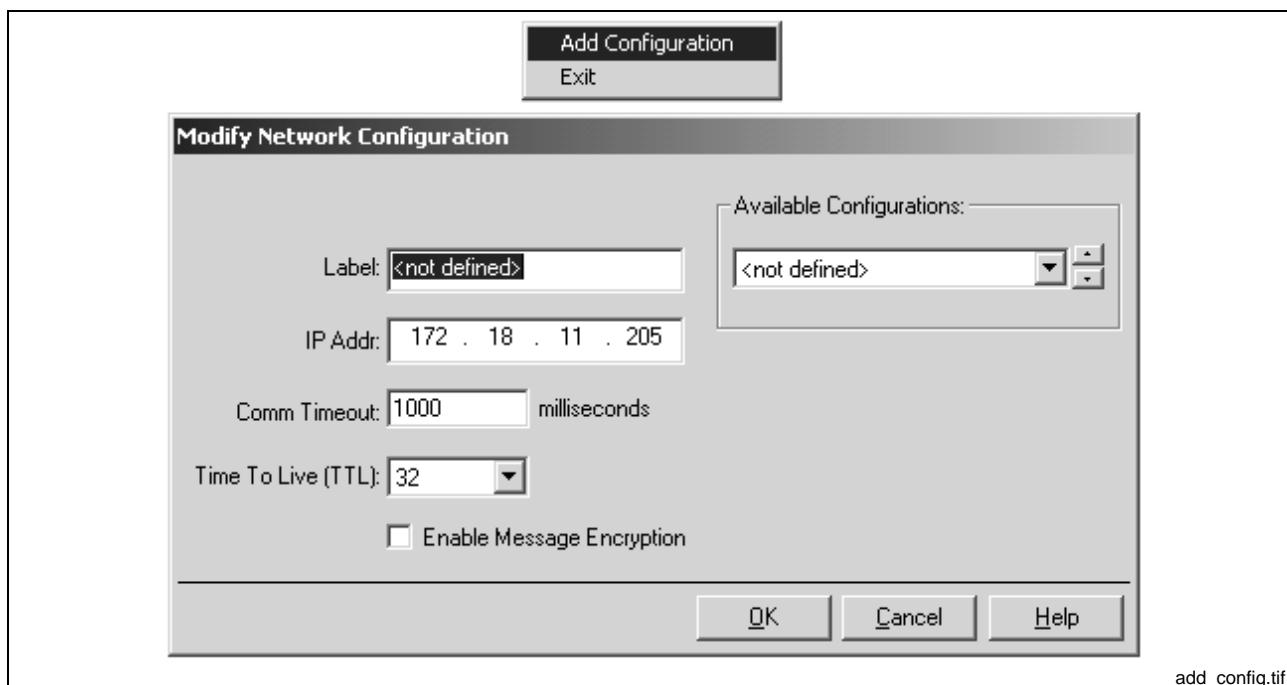

Fig. 9-24: Add Configuration
- Add Configuration** Right clicking on a green **G** opens a small popup window, where the user can add the selected control to the *Network Communication* section on page 9-16. Selecting **Add Configuration** opens the *Modify Network Configuration* window in Fig. 9-24. From this window, the user can modify the *Label* that will appear in the *Network Communication* window located under the VM DDE Server's menu selection, **Settings** ⇒ **Network Communications**.